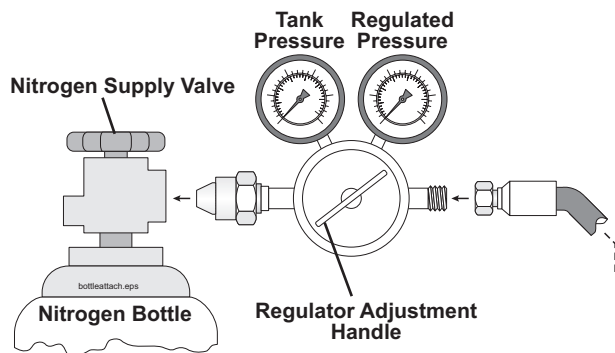

Figure 38
8. Be sure that the nitrogen bottle supply valve is firmly closed. Attach the high-pressure regulator to the nitrogen bottle, then attach the hose to the high-pressure regulator. Finally, attach the other end of the hose to the charge valve stem on the charge valve assembly (Figure 38).
9. Do not open the nitrogen bottle supply valve yet. Turn the regulator adjustment handle on the high-pressure regulator (Figure 38) counter clockwise to its minimum setting (closed).
10. Slowly open the nitrogen bottle supply valve (Figure 38). You will get a reading on the tank pressure gauge side of the regulator. If there is enough pressure in the nitrogen bottle to do the job, proceed to the next step.
11. Adjust the regulator adjustment handle clockwise, raising the regulated pressure. The accumulator will begin to fill. Continue filling until the charge valve assembly pressure gauge (Figure 38) reads the desired pressure of 1500 psi. Close the nitrogen bottle supply valve.